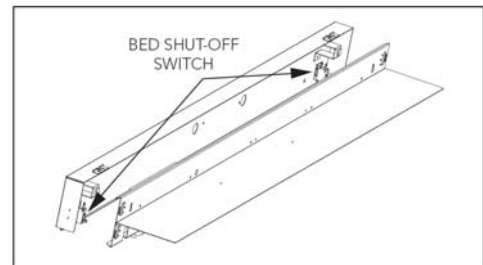

Figure 5
- b.) Locate the lead wires coming from the Bed Shut-off Switch. The switches are installed on the Backplate as illustrated in Figure 5.